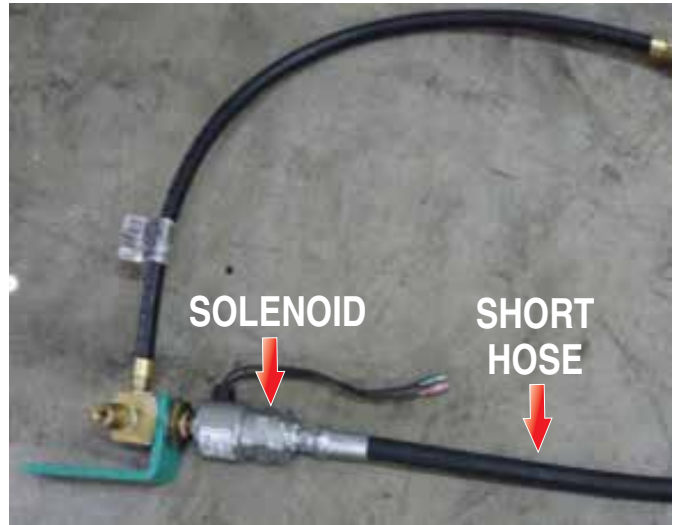

Figure 19. Connecting Hose to Safety Lock-Off Valve Assembly (Solenoid)
14. Connect the shorter hose (P/N 46301) to the solenoid side of the safety lock-off valve assembly (Figure 19), and tighten securely.